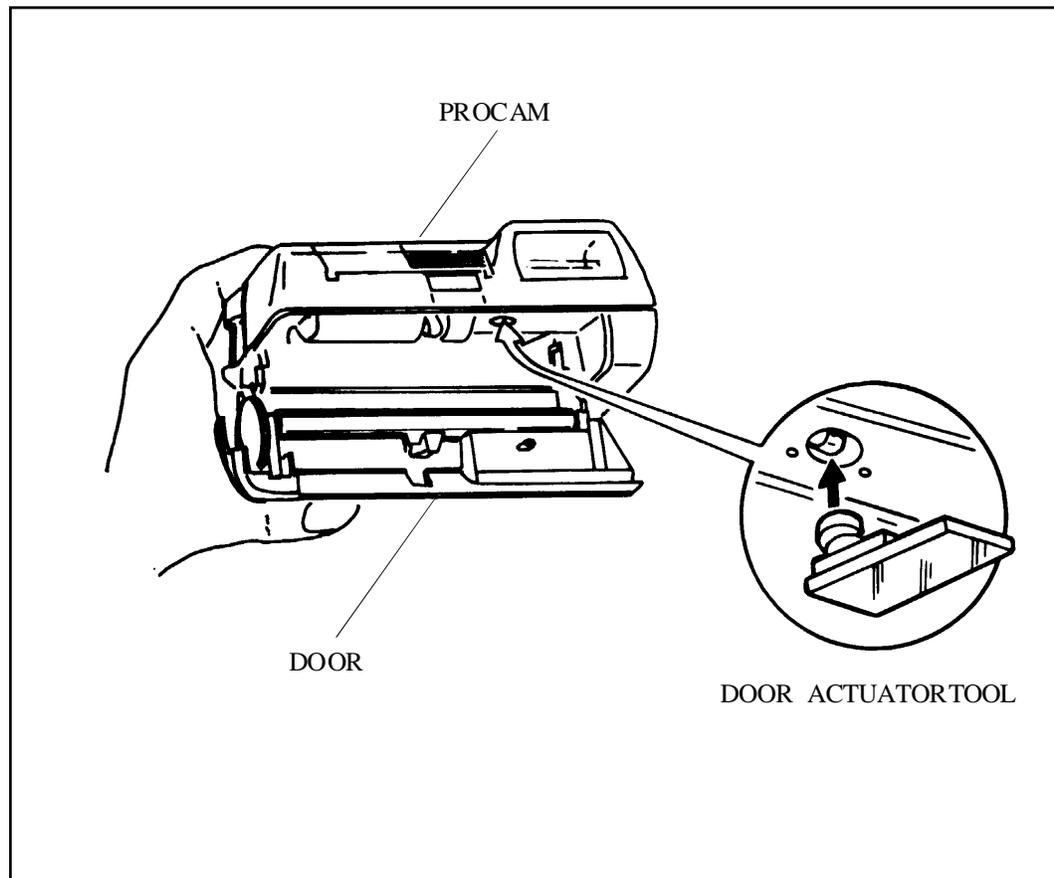

Figure 2-3. Trip ProCam Door Switch to Down Position
7. Open the ProCam door and then with tool # 13537 trip the door switch (Figure 2-3).